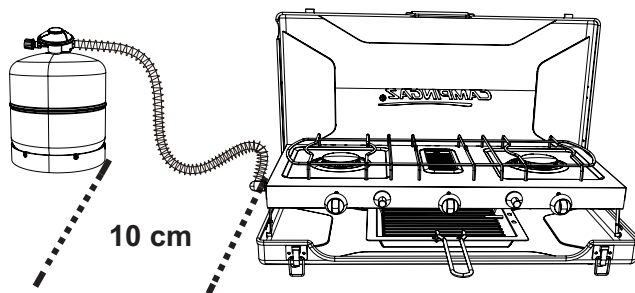

Fig.2
3. Close the control knob on the appliance by turning it towards "O". (Fig. 2)
5. Each control knob got an «OFF» position and a flow rate control range from reduced to full. (Fig. 2)
6. Make sure burner and regulator control knobs are in «OFF» position (Fig. 2).